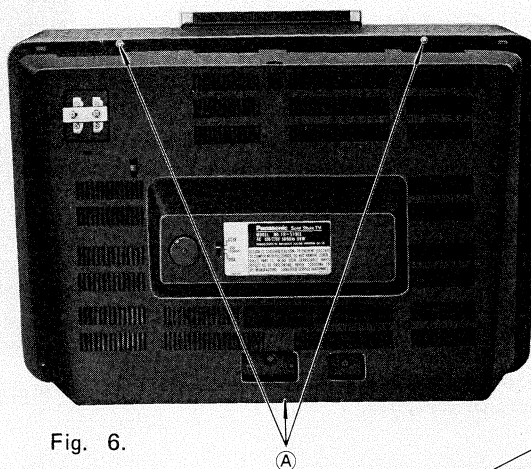

Fig. 6.
- (1) Remove 3 screws (A) from the rear cover shown in Fig. 6.